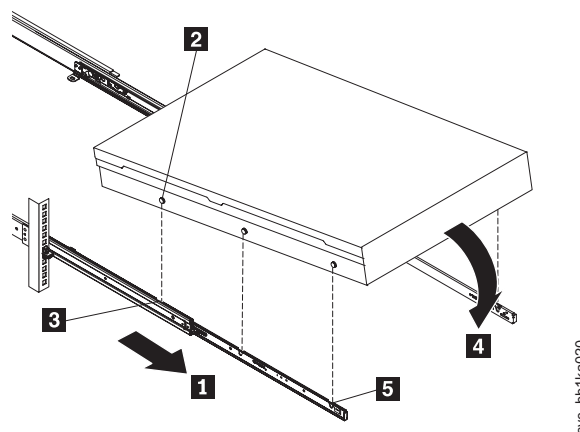

Figure 35. Installing the 2145-CG8 or 2145-CF8 node in the slide rails of the rack
- a. Pull the slide rails forward (**1** in Figure 35) until they click twice into place.